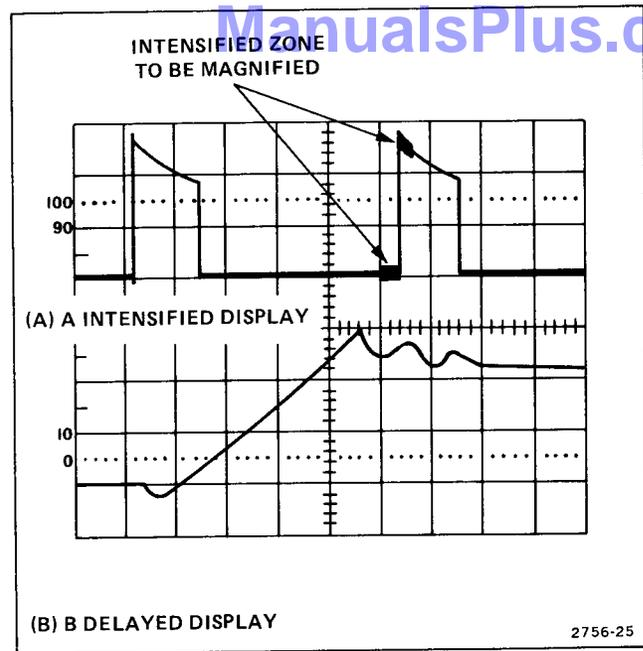

Figure 42. Delayed sweep magnification.
7. Set the B TIME/DIV switch to a setting which intensifies the full portion of the A trace to be magnified. The intensified zone will be displayed as the B trace (see Figure 42). Set the INTENSITY and B INTENSITY controls as required to display the B trace (magnified portion of the A trace).